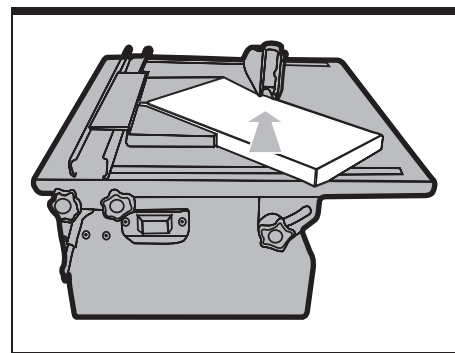

Fig 6
5. MAKING A MITRE CUT (see fig6)
Follow the same procedure for a straight cut but employ the mitre guide in conjunction with the parallel guide (see fig6). The mitre guide simply runs up against the edge of the parallel guide. Ensure that the tile is held firmly into the guide before making the cut.